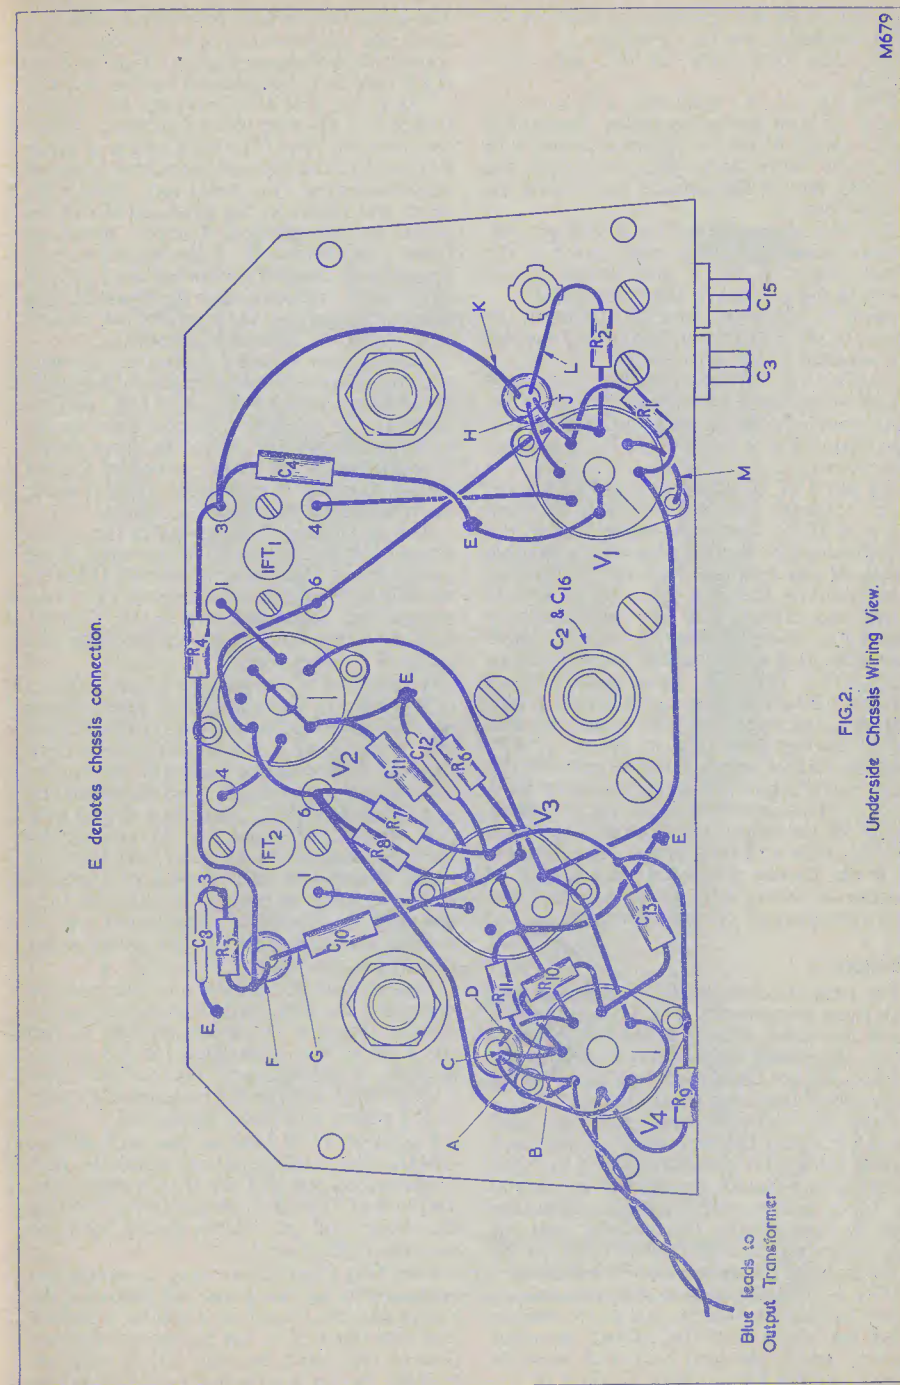
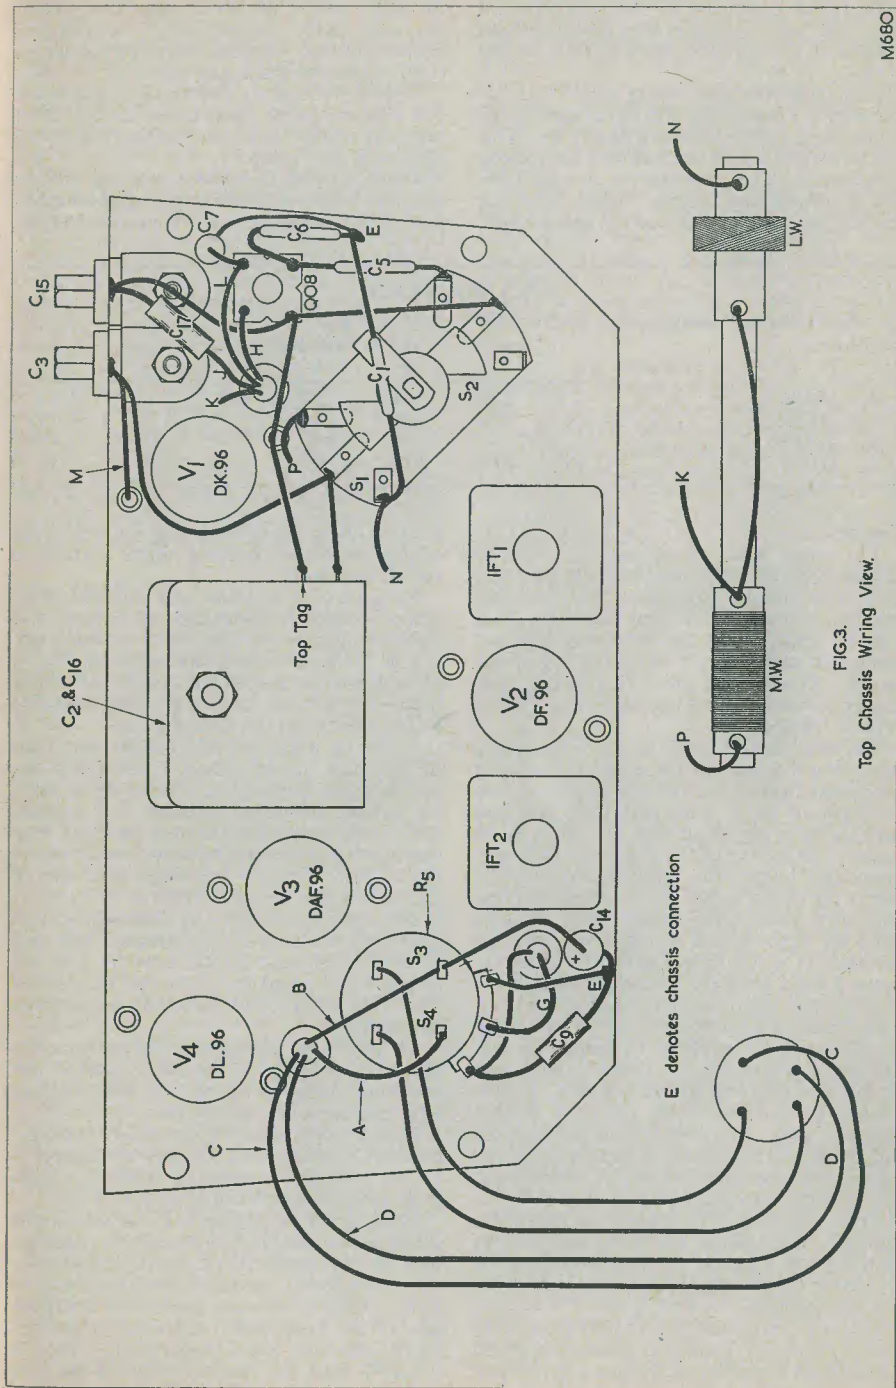

FIG. 2. Underside Chassis Wiring View.
FIG. 3.
The more experienced constructor will, of course, work direct from the circuit diagram or possibly from Fig. 2 and 3.
Frequent glances at the accompanying illustrations will greatly assist the beginner with respect to the "real" position of components; both Figs. 2 and 3 being "approximate" drawings for purposes of clarity.
and wavechange switch protrude. The outline shape of the chassis will greatly assist with respect to correct locations of components in both Figs. 2 and 3.
Next, secure in position the wavechange switch S₁ and S₂; again, this is a combined component. A glance at Fig. 3 will show the approximate locations of these components. Follow this by fixing the variable tuning condenser C₂ and C₁₆ into position (Fig. 3), using the three 4BA x $\frac{1}{4}$ inch screws. (Fig. 2.) Having completed this, the two trimmers C₃ and C₁₅ may be held in position (Fig. 3) by means of a 6BA screw and nut each. From Fig. 3 ascertain the position of the oscillator coil QO8 and firmly press this into the aperture provided, ensuring that the straight side of the tag ring is towards the two trimmers previously mounted.
We commence by first soldering in the wires necessary to carry the h.t. and l.t. currents. Take two lengths of p.v.c. covered wire, about 4½ inches in length, and bare the four ends. Solder the end of one to the top left-hand tag at the rear of the volume control (see Fig. 3). Connect the other end of this wire to the appropriate pin of the four-pin plug, also shown in Fig. 3. To correctly solder this latter connection, pass the bare wire through the pin until it extends from the end furthest from the paxolin shoulder. Solder at this latter point and remove any surplus wire with the aid of a pair of cutters. Dealing with the second wire, solder one end to the top right-hand tag of the volume control and the other end to the
Connect into circuit the wires marked C and D shown in Figs. 2 and 3. Bare and connect the end of each to the 4-pin plug, as shown, and then pass these through the rubber grommet and solder the end of C to pin 4 of V₄; the end of D to pin 5 of the same valve.
Underside of chassis. Compare with Fig. 2 opposite
top left-hand pin of the four-pin plug. Note here that the view of the plug shown in Fig. 3 is that shown looking at the rear of the component with the pins pointing away from the reader. The position of the pins can be ascertained by the fact that the two top pins are set further apart than the remainder.
The silver mica condenser C₁ (130pF) should now be removed from the card, its wire ends suitably shortened and one end soldered to the top left-hand tag of S₁. (See Fig. 3.) Ensure that this wire end does not come into contact with any other tag of the switch. Connect the other end of this condenser to the earthing tag near the adjacent edge of the chassis.
Dealing next with C₅ (450pF), suitably shorten the wire ends and connect one end to the right-hand tag of S₂ (see Fig. 3), and
the coil QO8. Note from Fig. 3 the position of this condenser, it being placed vertical to the chassis deck.
Fig. 3 shows the position of C₉ (100pF), and this should be soldered from the left-hand tag of the volume control R₅ with the other end connected to the earthing tag.
We next deal with the ferrite rod aerial connections. Firstly, with a short length of p.v.c. wire (K), connect the two windings to each other by soldering each end of the wire to the two innermost studs. (See Fig. 3).
Obtain a suitable length of p.v.c. wire, bare both ends and solder one to the right-hand stud of the aerial assembly (N of Fig. 3). The other end of this wire should now be connected to the left-hand tag of the wavechange switch S₁.
Insert the respective valves into the appropriate holders. (See Fig. 3.) Fit the spindle extension to the spindle of the wavechange switch. Mount the chassis into the cabinet and secure into position by means of the four wood-screws provided. These should be driven into the wood blocks fixed to the receiver casing. Finally, fit the knobs to their respective spindles.